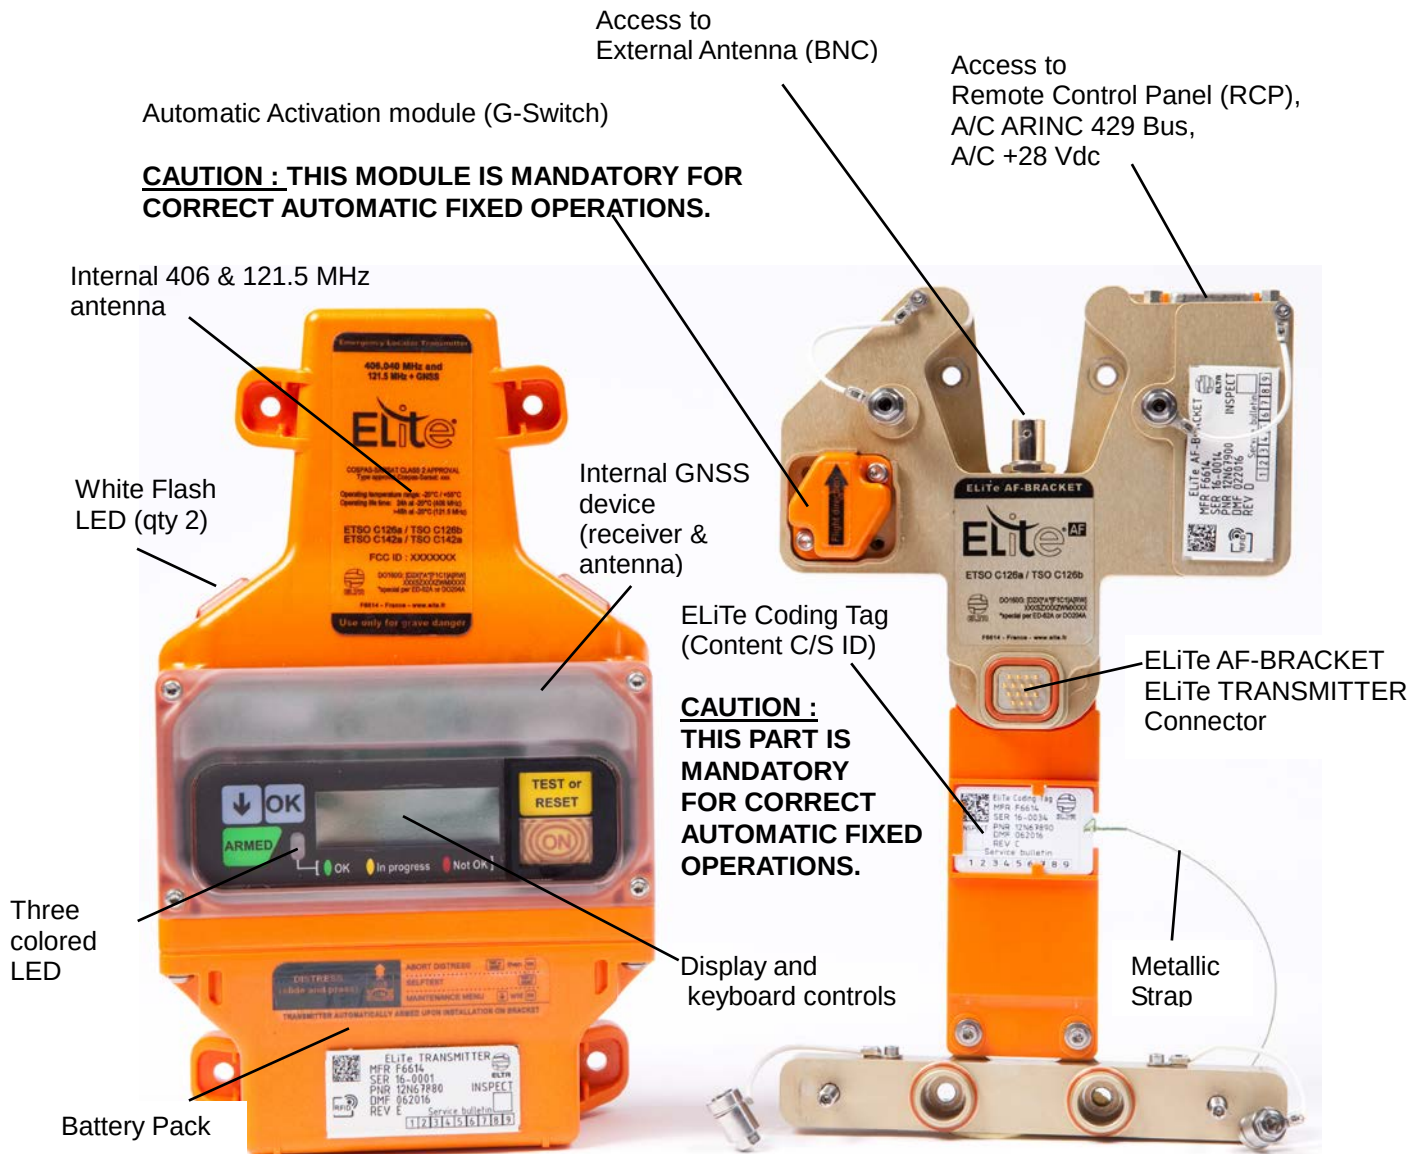

Figure 3
E. Characteristics (Ref. Fig. 3)
(1) Approvals